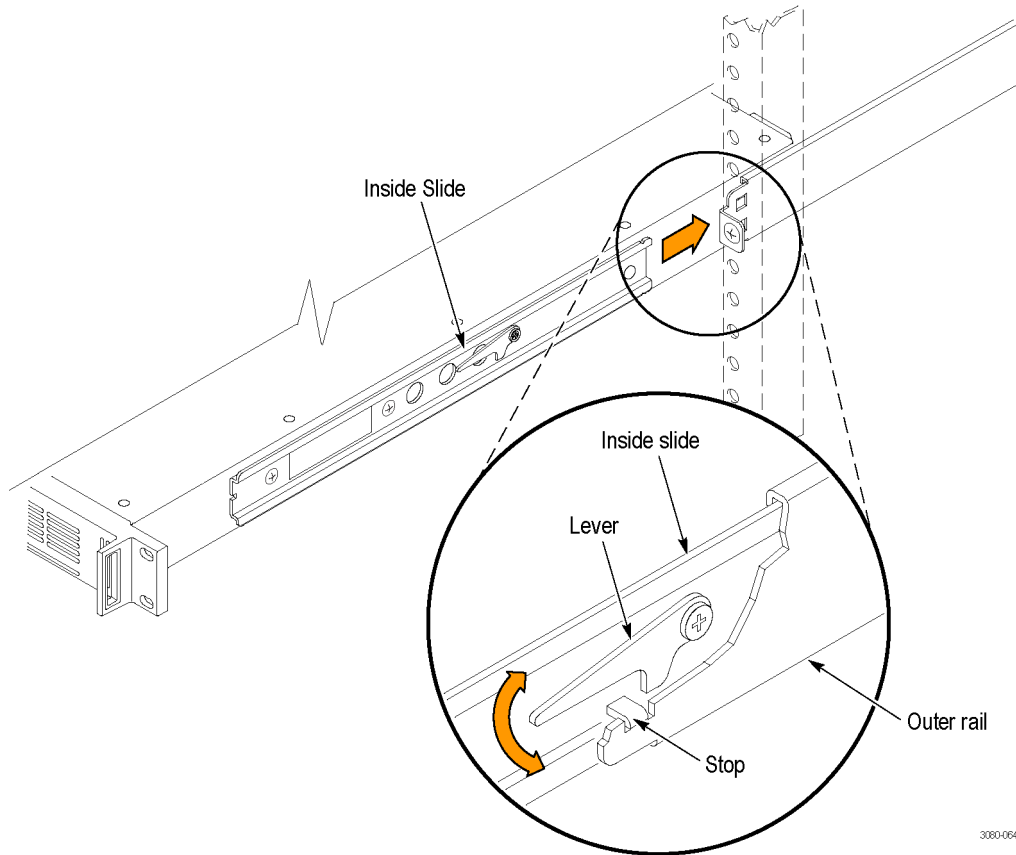

Figure 2: Installing or removing the instrument into or from the rack
1. Insert the instrument left and right slides into the ends of the rack rails while tilting the long handle part of each lever upward. (See Figure 2.)
3. Tilt both lever handles upward simultaneously to allow them to clear the stops. (See Figure 2.)